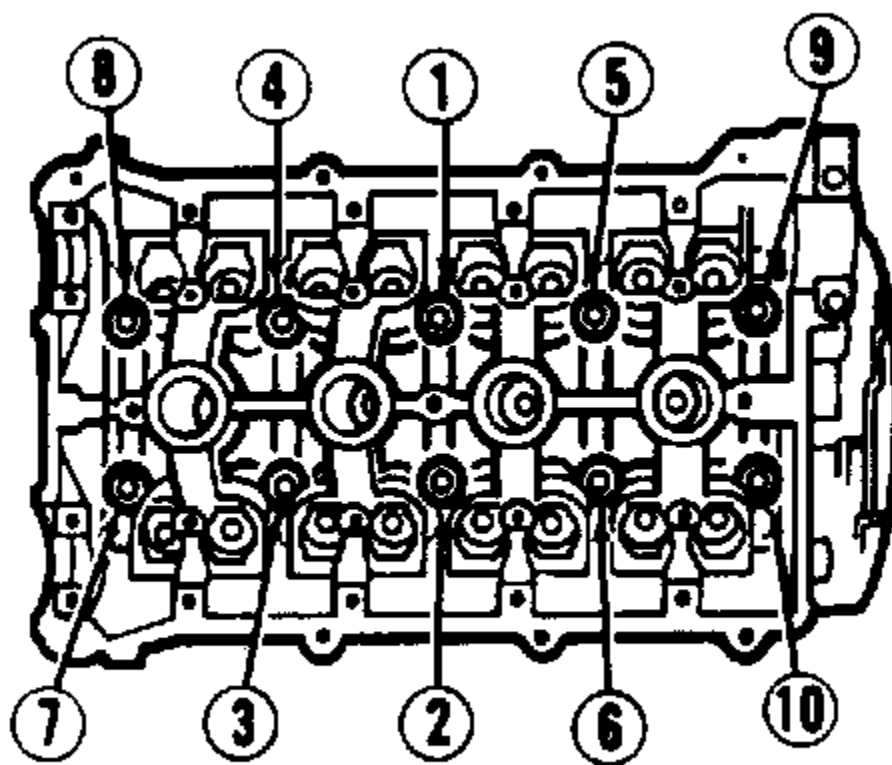

Fig. 2: Installing Cylinder Head Bolts (1.6L)
2. Ensure gasket surfaces of head and block are clean of old gasket and sealant. Place new head gasket on cylinder block. Carefully, place cylinder head on block. Tighten cylinder head in sequence and in two stages to correct specification. See Fig. 2.